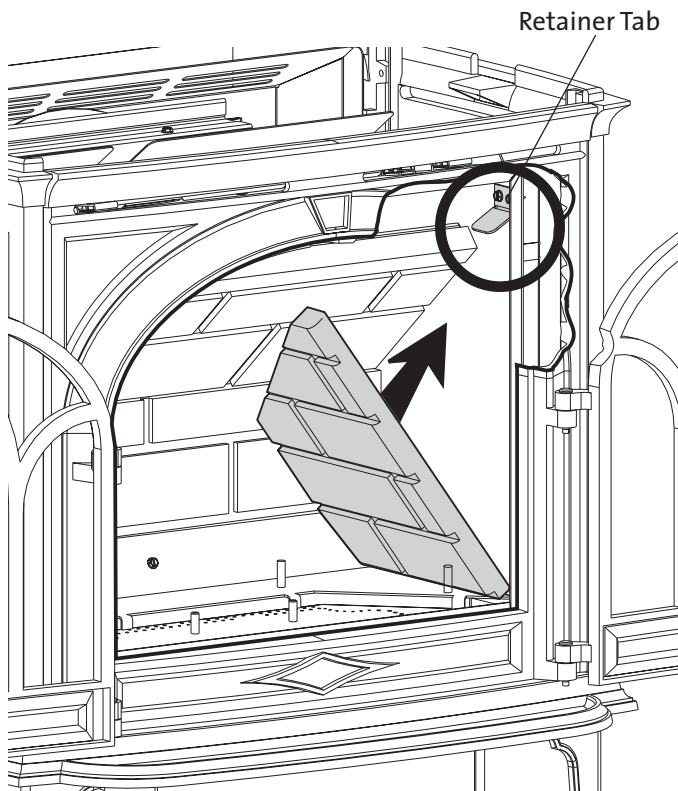

Figure 36. Install the Brick Panels.
3. Locate the retainer tabs in the upper corner of each side of the firebox. Bend each retainer tab out enough to engage the side brick panels. See fig. 36.